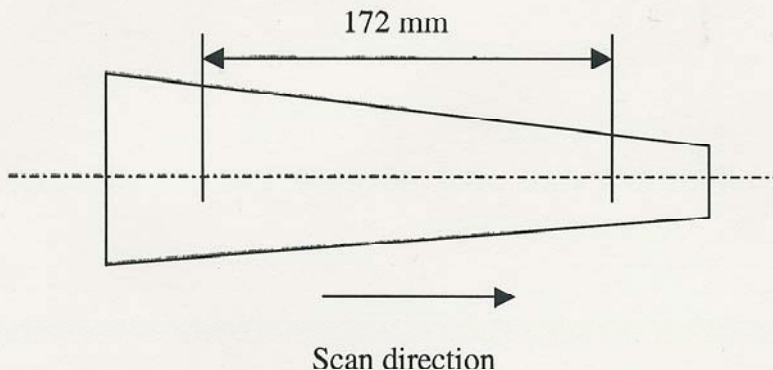

Figure 1. LTP scan direction.
- The mirror was set face-up and scanned over a length of central 172 mm (see Figure 1).